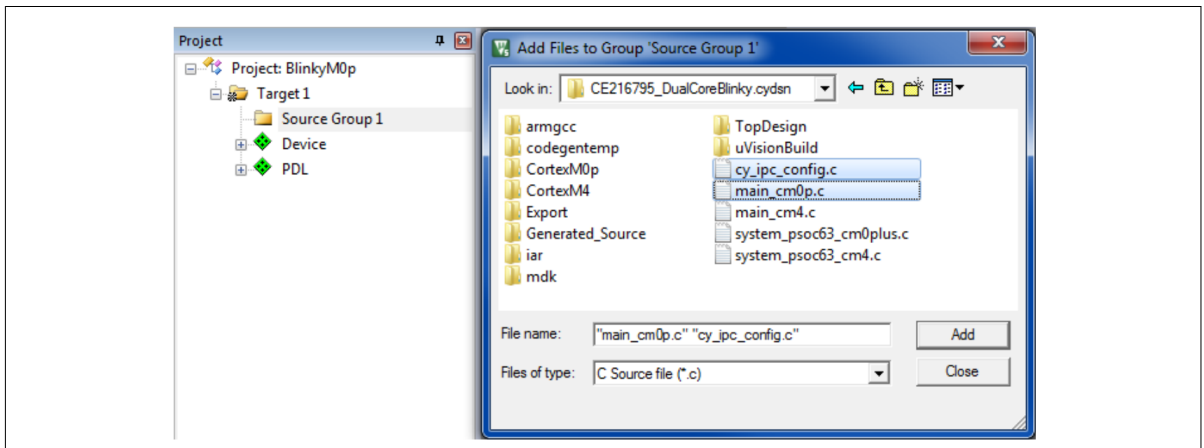

Figure 19 Add PSoC™ Creator project C source files to the source group
Right-click **Source Group 1**, and select **Add Existing Files to Group 'Source Group 1'...** Navigate to your PSoC™ Creator project folder and select `main_cm0p.c`, `cy_ipc_config.c`, and all other non-system `.c` and assembler files needed for your project, as Figure 19 shows. You do not have to add any `.h` files, startup, or system `.c`, or assembler files. Click **Add**; the files are added to the source group in the µVision project. Click **Close**.
- Navigate to your PSoC™ Creator project folder and select `main_cm4.c`, `cy_ipc_config.c`, and all other non-system `.c` and assembler files needed for your project, as Figure 19 shows. You do not have to add any `.h` files, startup, system `.c`, or assembler files